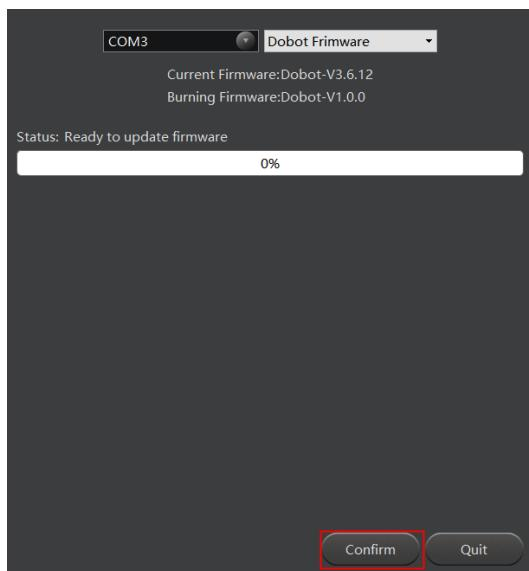
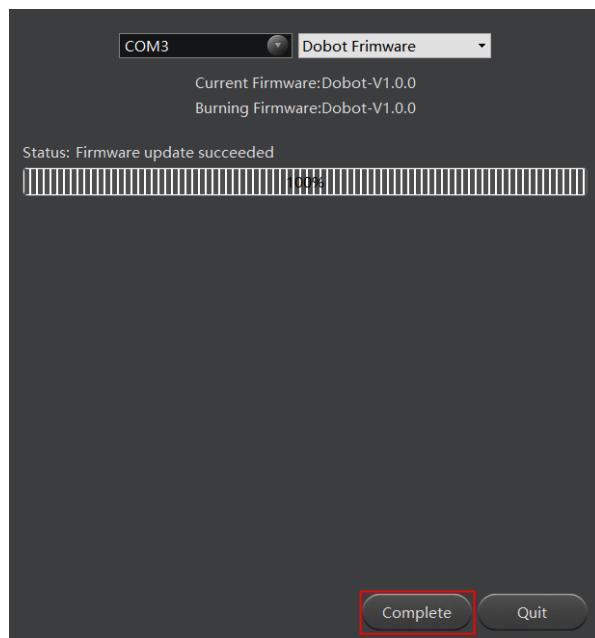

Figure 5.33 Click **Confirm**
Figure 5.34 The firmware upgrade is successful
3. Click **Confirm** to upgrade the Dobot firmware, as shown in Figure 5.33. When the upgrade process bar shows 100%, and a short beep sound is heard, it means that the firmware is upgraded successfully, as shown in Figure 5.34. In this case, the LED indicator turns from red to green. Then click **Quit** to exit.